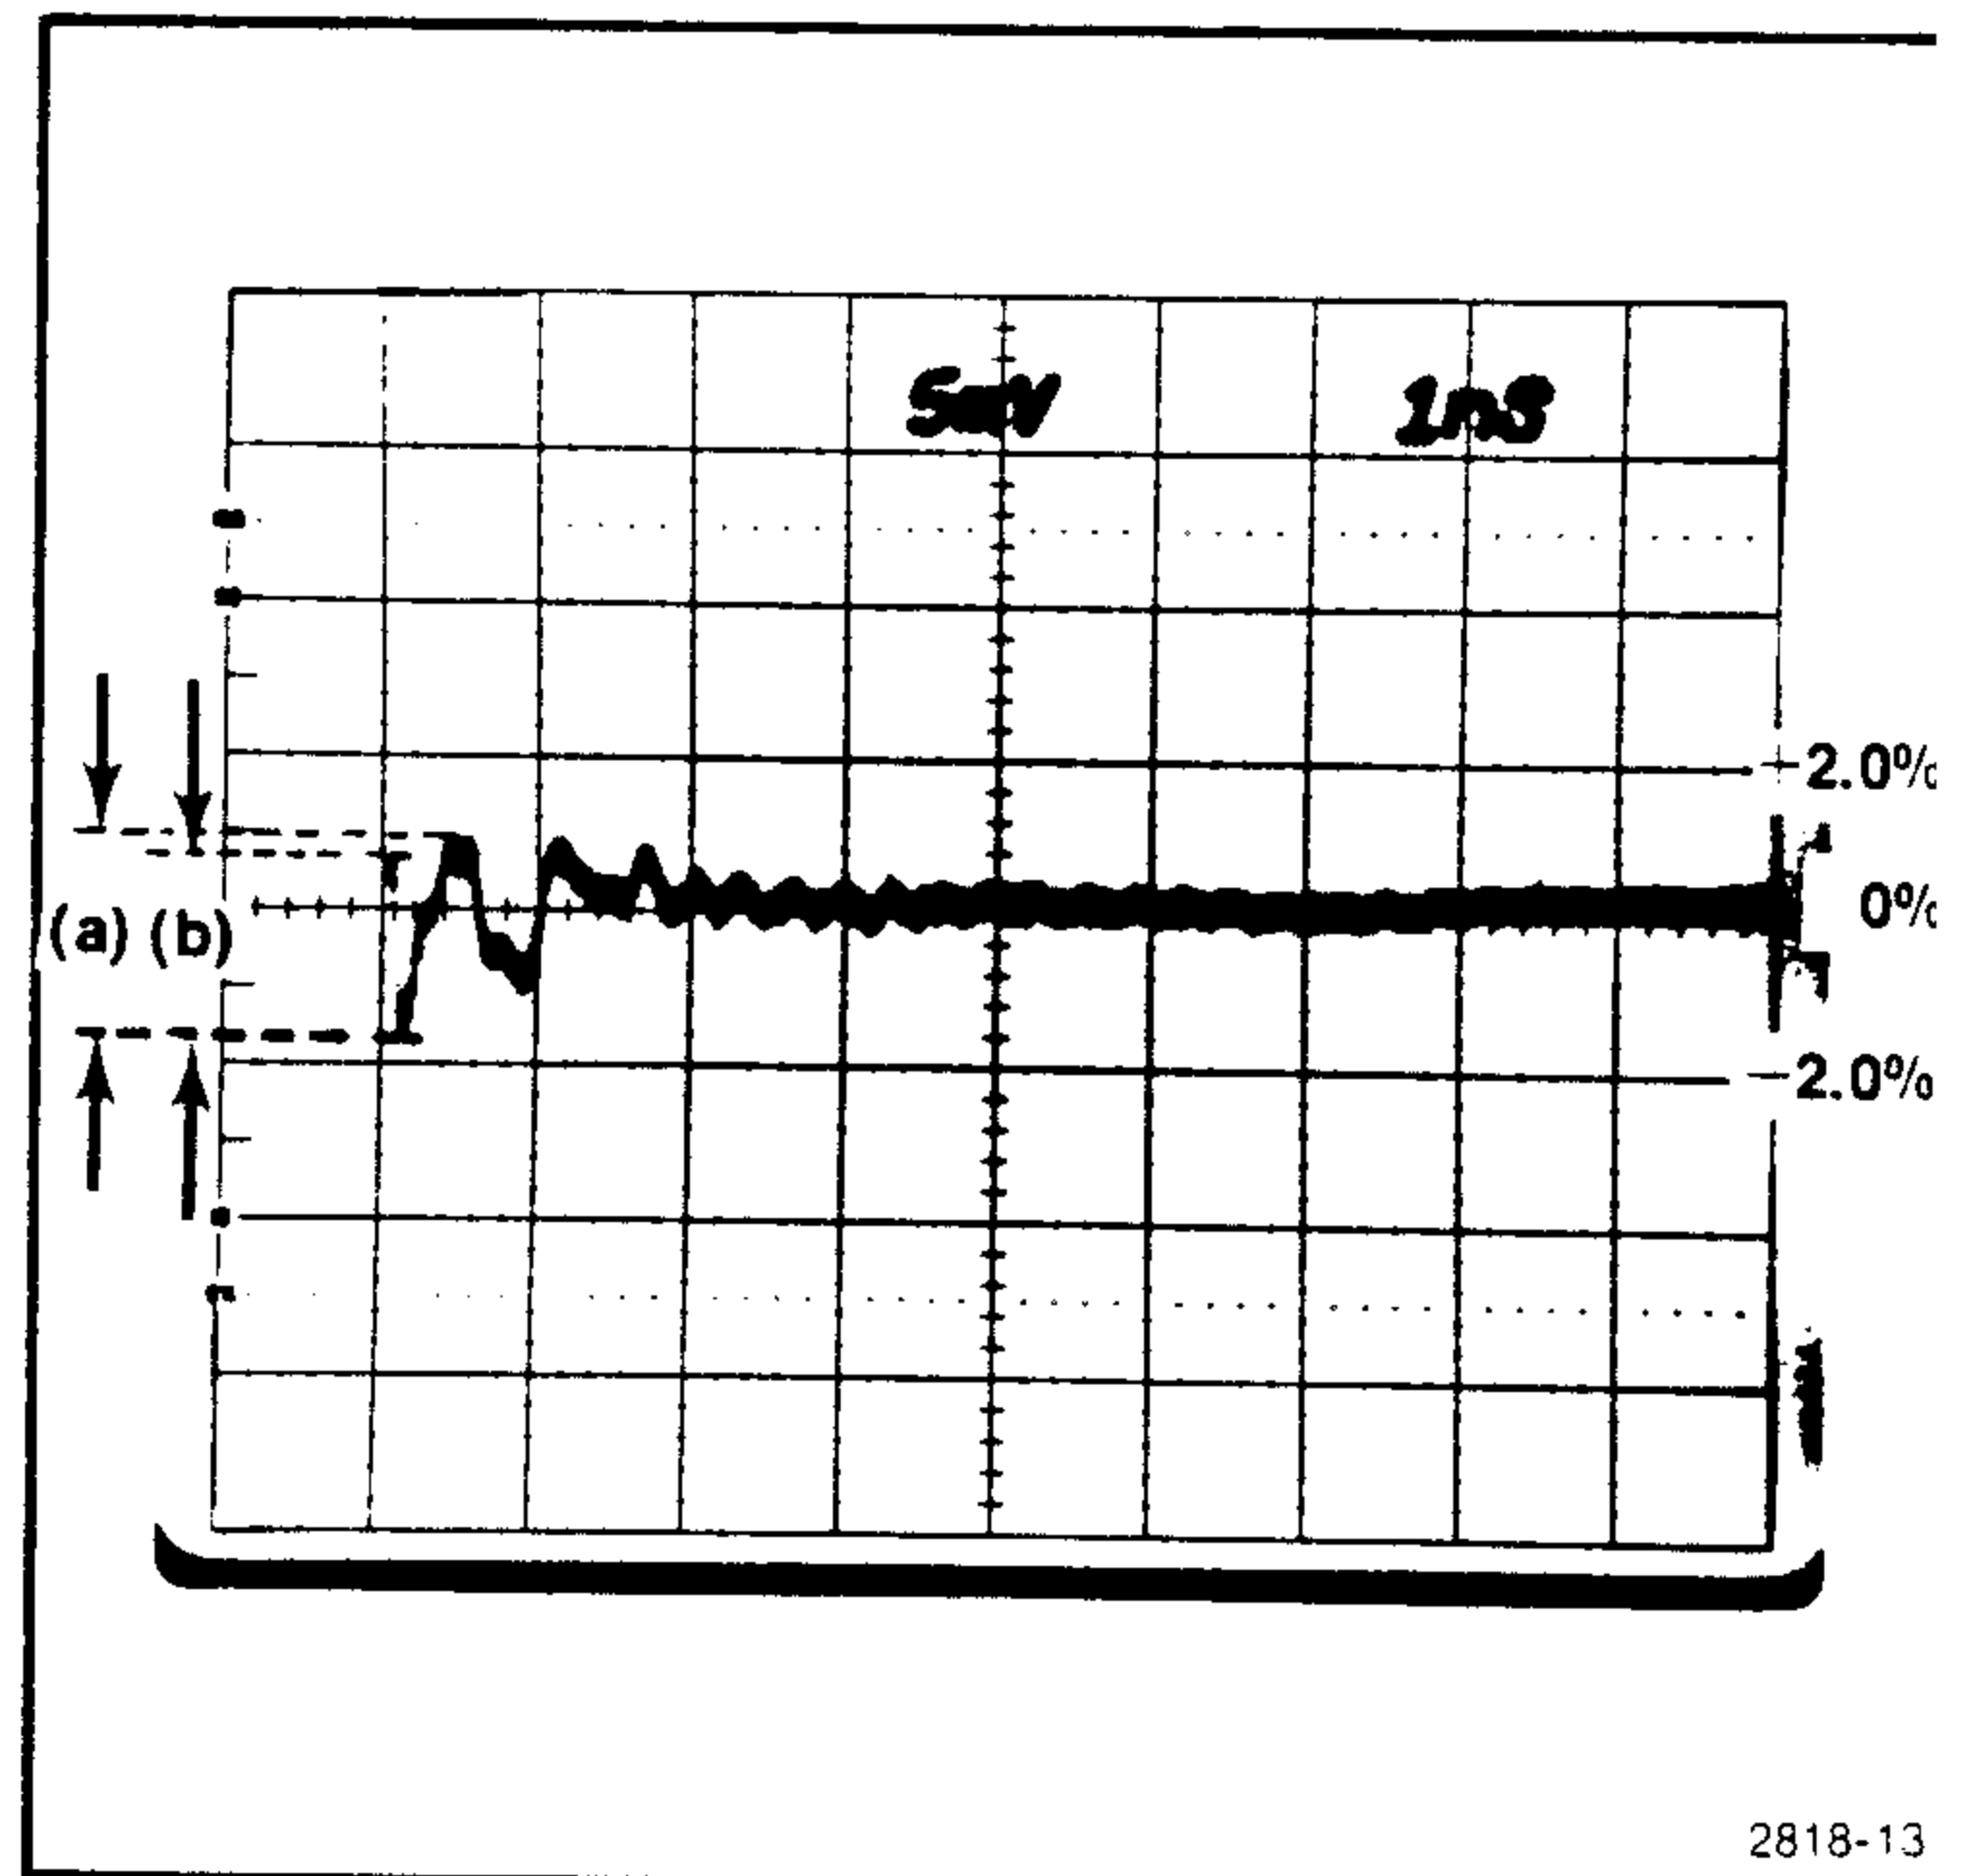

Fig. 4-3. Fast edge pulse leading edge. (a) $\leq \pm 3\%$ aberration; (b) $\leq \pm 4\%$ adjacent peaks.
Refer to Fig. 4-3 for following check:
b. Adjust 7S11 DC OFFSET ± 1 V control to lineup top of pulse with horizontal center graticule line (see Fig. 4-3).
Interaction between R1200 and C1100 may require slight readjustment to obtain the optimum displayed pulse. See Fig. 4-3.